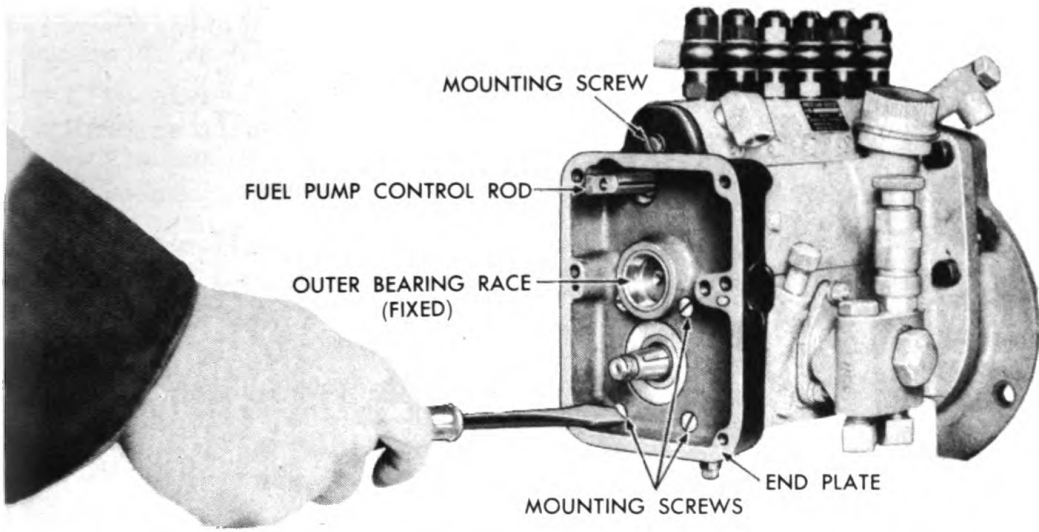

Figure 221. Installing Governor End Plate to Fuel Pump.
10. It is not necessary to remove the end plate unless the governor or fuel pump is to be replaced. If necessary to remove the end plate, unscrew the five mounting screws, shown in Figure 221.
1. If end plate was removed, shellac and install a new gasket between the pump housing and governor housing end plate, and install end plate as shown in Figure 221. With a punch, stake the four counter-sunk mounting screws.